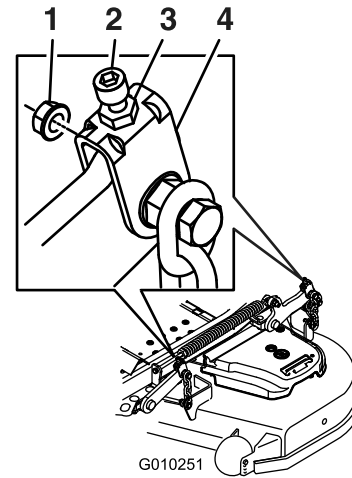

Figure 91
11. For mower decks shown in Figure 91, fine-tune the adjustment nut on the front deck-lift assembly by turning it (Figure 91).
- Fine-tune the screw adjuster by turning it to get 8.3 mm (3-1/4 inches) height (Figure 91).